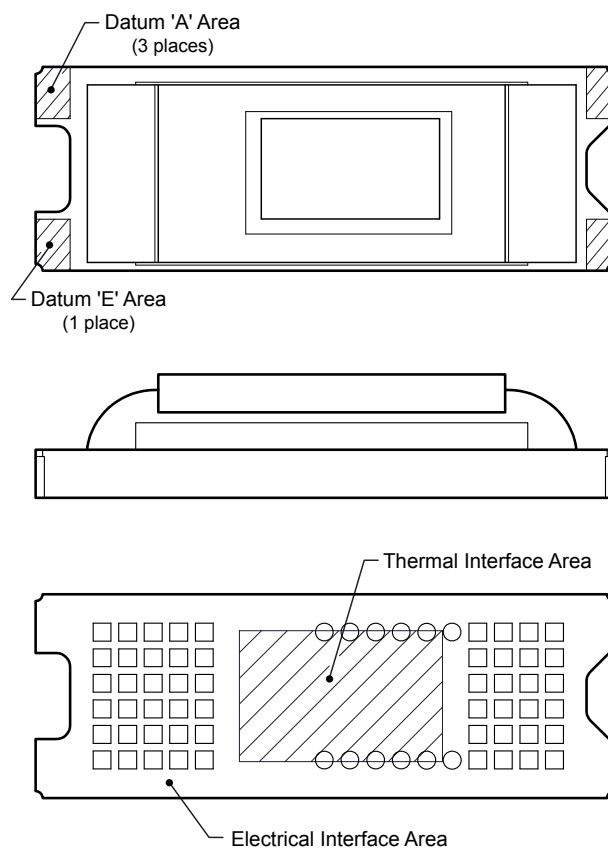

图 5-14. System Interface Loads
(1) Uniformly distributed within area shown in 图 5-14.